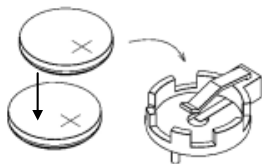

Fig. 3.0
- ☐ Insert two CR2025 or two CR2016 batteries into the battery holder. Mind the polarity!, see figure 3.0